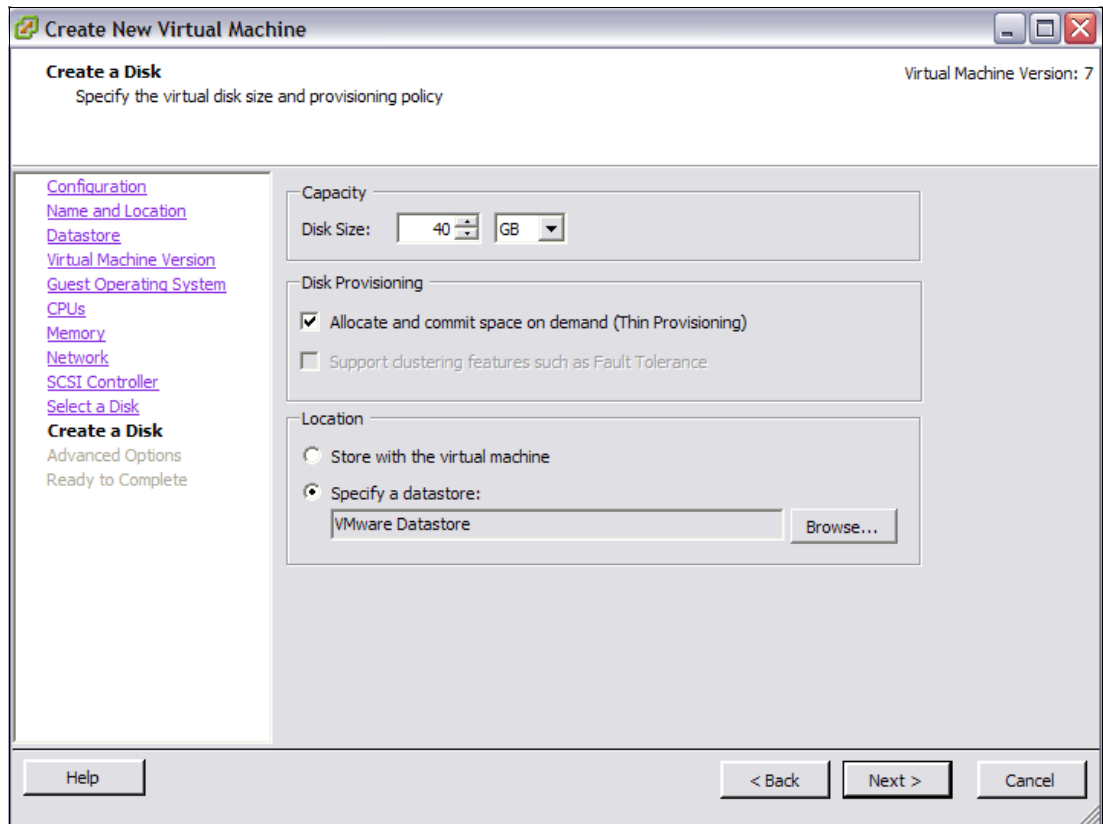

Figure 22-83 Create a disk
13. If you selected the Create a new virtual disk option, allocate the Disk size (this will be the size of the .vmdk file that represents the hardware disk in the virtual machine's configuration) as shown in Figure 22-83 on page 715. Specify the Datastore to be used by clicking **Browse**. In our example, we use the VM\_Datastore that we created in earlier steps. Click **Next**.